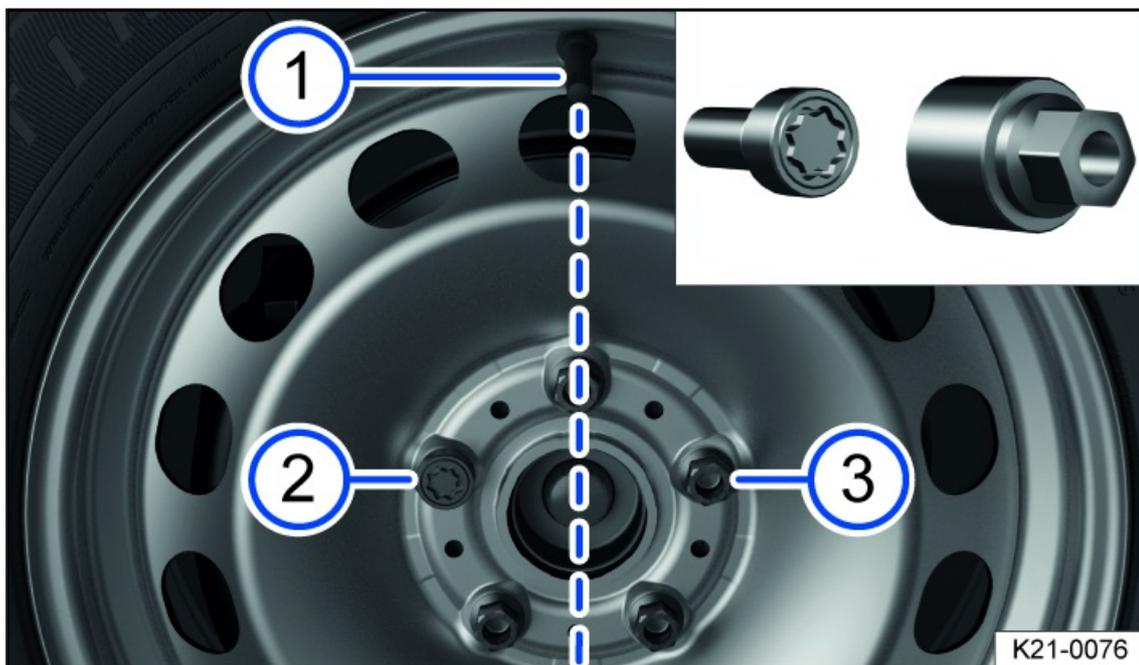

Fig. 189 Make sure the anti-theft wheel bolts are positioned correctly.
On wheels with full wheel covers, the anti-theft wheel bolt must be fitted in position *fig. 189* ② or ③, based on the position of the tire valve ①. Otherwise, it will not be possible to install the full wheel cover.